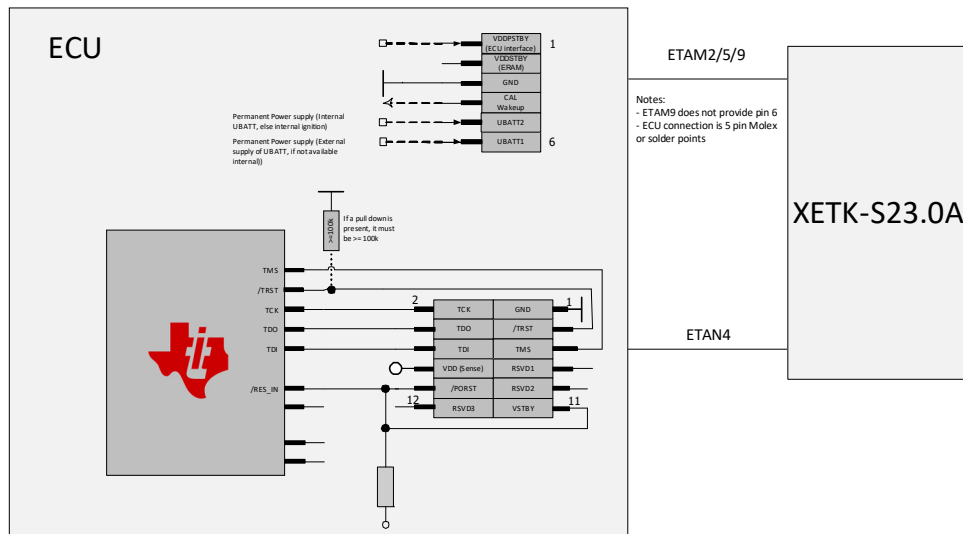

Fig. 3-6 Equivalent Circuitry of the ECU JTAG Interface (ECU)
The ECU part of the JTAG XETK interface is depicted in Fig. 3-6.
- If a pull-down resistor is present on the line /TRST, the ECU must use a value no smaller than 100k Ohm as shown in Fig. 3-6 on page 21.
Please consult with your local ETK support regarding connections to the XETK-S23.0 including watchdog timer disable, voltage and or reset monitoring, calibration wake-up, etc... ETAS ETK support can review adaptations to the circuit/connections between the ECU interface and the XETK-S23.0 as shown in Fig. 3-6 on page 21.